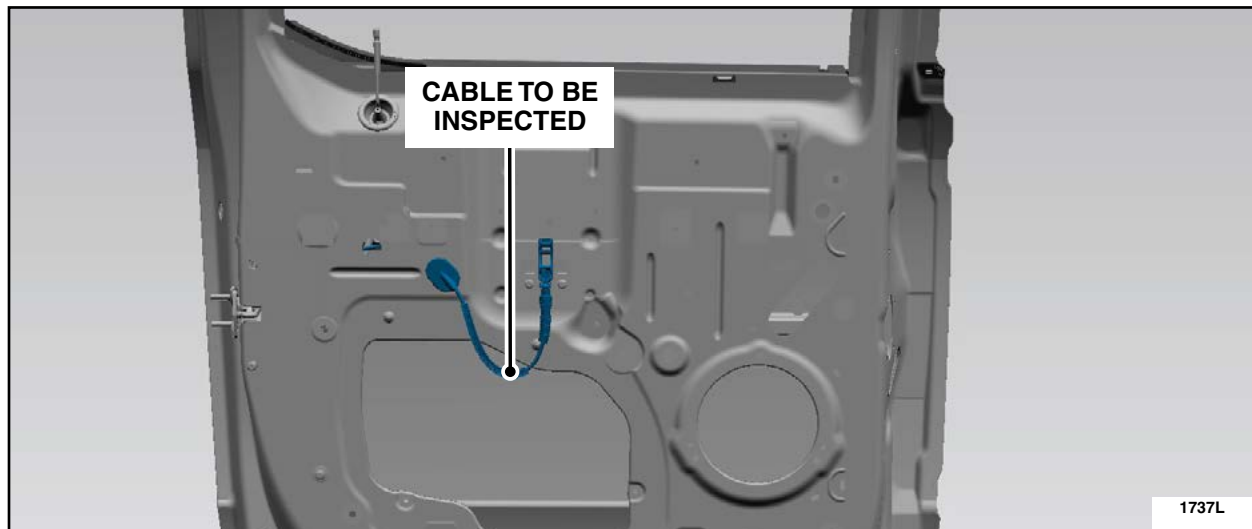

FIGURE 18
3. Inspect the interior door handle to latch cable for kinking. See Figure 18.